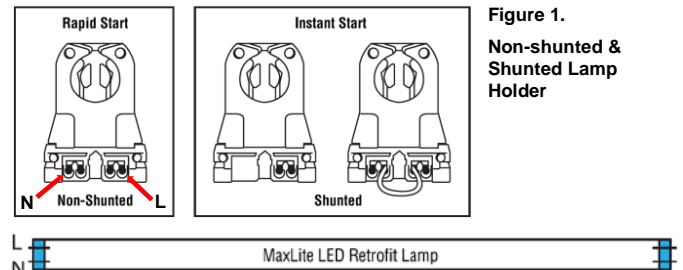

Figure 2. Single sided connection
7. MaxLite LED T8 lamps are designed for single sided connections only (**Figure 2**). To install, please wire non-shunted sockets by connecting one wire from the lampholder to branch circuit L (LIVE) and the other wire at the opposite end to the branch circuit N (NEUTRAL). Do not connect opposite side to power. Use appropriate wires for connection.